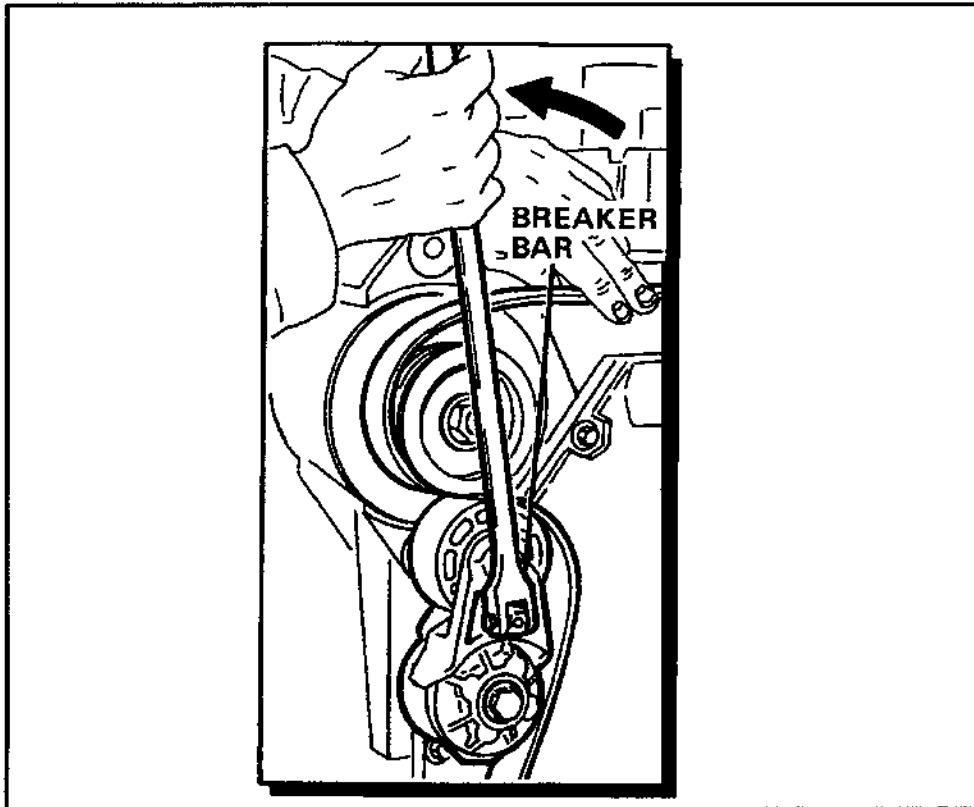

Figure 8-3 Setting Belt Tensioner
2. Attach breaker bar to square hole of belt tensioner. See Figure 8-3.